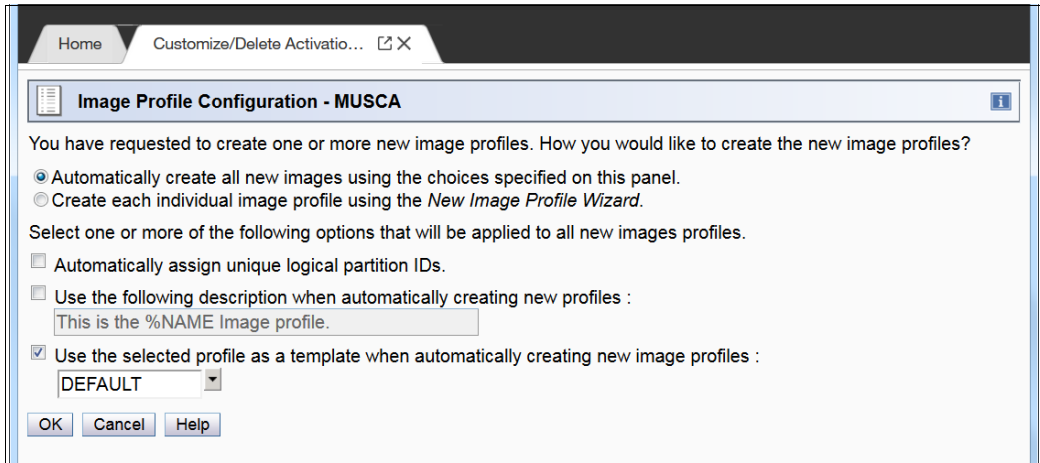

Figure 5-19 Image Profile automatic build options
11. In our example, we select **Automatically create all new images using the choices specified on this panel** and **Use the selected profile as a template when automatically creating new image profiles: DEFAULT**. Click **OK** (see Figure 5-19 on page 98).